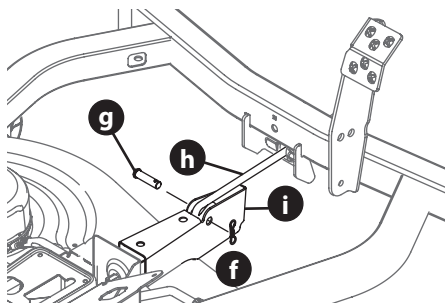

Figure 41
4. Remove the third bow-tie pin (f) from the clevis pin (g) that secures the front deck control rod (h) to the front deck lift bracket (i) (Figure 41). Remove the clevis pin (g).